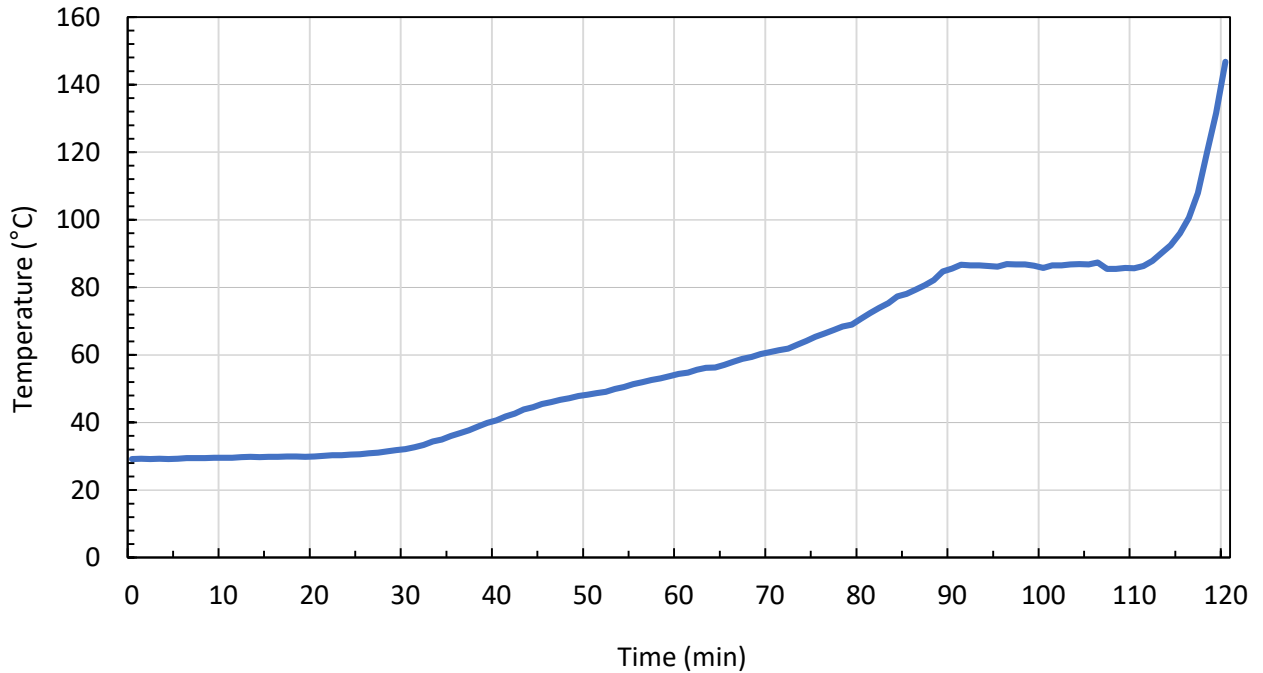

Figure 9: Average observed temperature at unexposed Side.
- The average observed temperature at the unexposed side is shown in Figure 9.